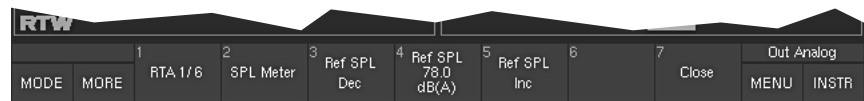

Fig. 5-34: Second Toolbar function layer of the CAL instrument (displayed after selecting MORE)
(Second layer, button/key 1, see Fig. 5-34)
(Second layer, button/key 2, see Fig. 5-34)
(Second layer, button/key 3, see Fig. 5-34)
(Second layer, button/key 4, see Fig. 5-34)
(Second layer, button/key 5, see Fig. 5-34)
(Second layer, button/key 7, see Fig. 5-34)